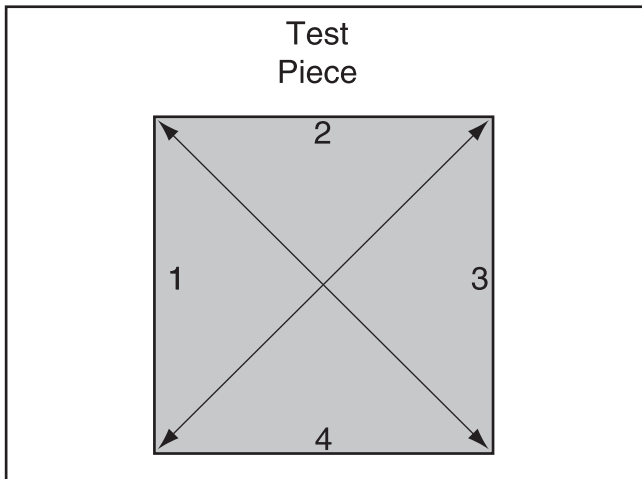

Figure 80. Fence adjustment test piece.
2. Prepare the scrap test piece by numbering all four sides as shown in **Figure 80**.
4. Measure the test piece diagonally from corner-to-corner as shown in **Figure 80**.